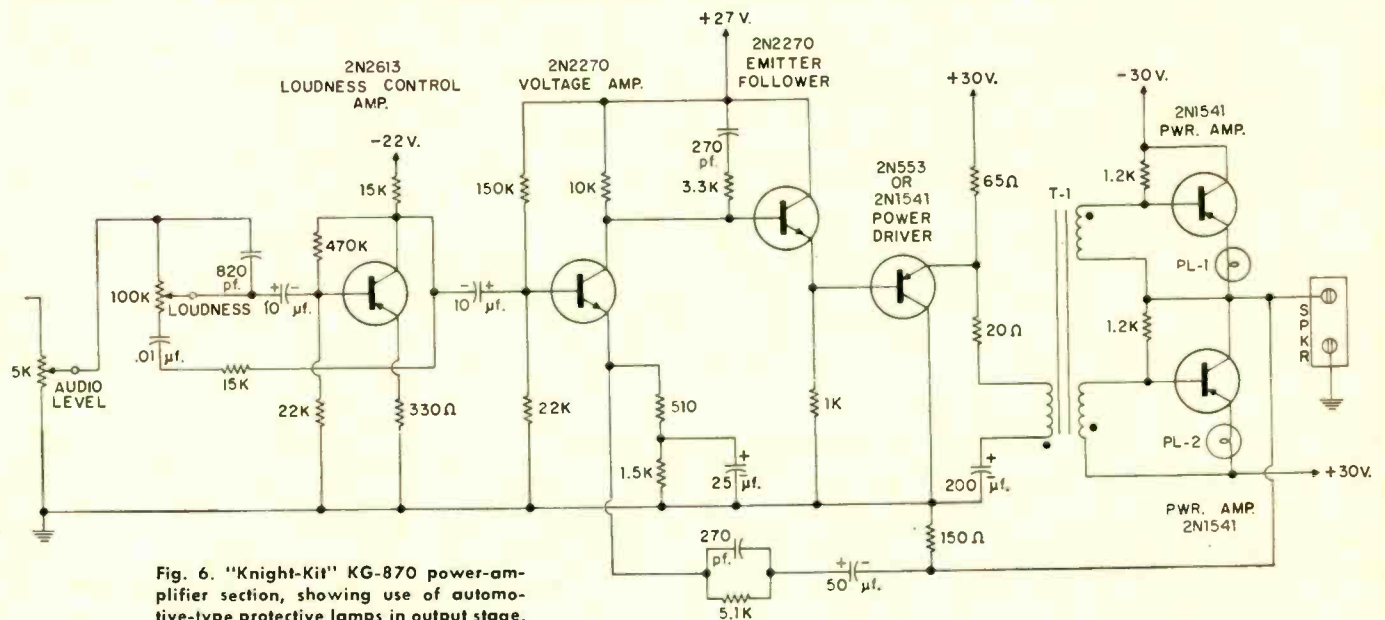

Fig. 6. "Knight-Kit" KG-870 power-amplifier section, showing use of automotive-type protective lamps in output stage.
*Allied Radio's* "Knight-Kit" KG-870 has several unique features. The preamplifier is straightforward enough. The amplifier (Fig. 6) features a loudness-control amplifier, capacitance-coupled to the base of a voltage amplifier. This is direct-coupled to an emitter-follower which is itself directly connected to the power driver. This transistor drives the transformer. On the other side we find a conventional enough half-bridge circuit, using germanium transistors but with an interesting variation. The emitter resistors are replaced by 6-volt automotive-type incandescent lamps. The manufacturer claims that the tungsten-filament lamps combine a positive temperature coefficient for d.c. stabilization, circuit balance, and runaway protection. The lamps also function as fast fuses because of their sensitivity to overvoltage caused by shorted speaker leads.